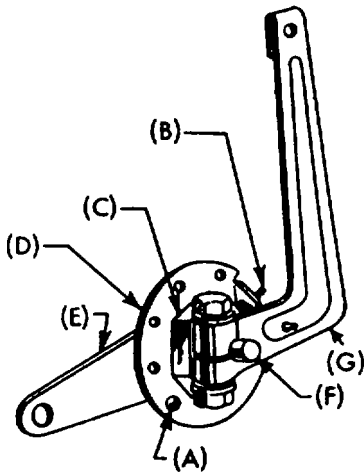

Figure 5
- Remove drive pin (A Fig. 5) from speed control disc (D Fig. 5) and operate control handle, rotating disc from idle to full speed. See further instructions below.
In many cases on variable speed applications, a drive pin is used as a maximum speed stop on the governor. In this case, the drive pin is located on the opposite side of the throttle bracket as shown in Figure 5. This would be in the approximate position of the arrow head on reference D.